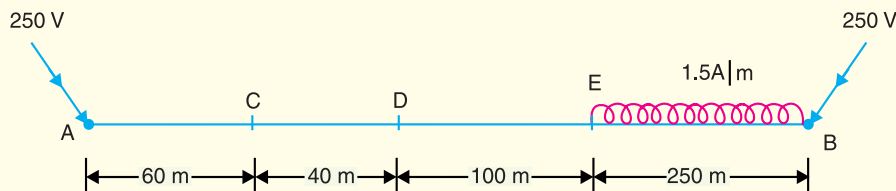

Fig. 13.35
- A d.c. 2-wire distributor AB is 450 m long and is fed at both ends at 250 V. The distributor is loaded as shown in Fig. 13.35. The resistance of each conductor is  $0.05 \Omega$  per km. Find the point of minimum potential and its potential.